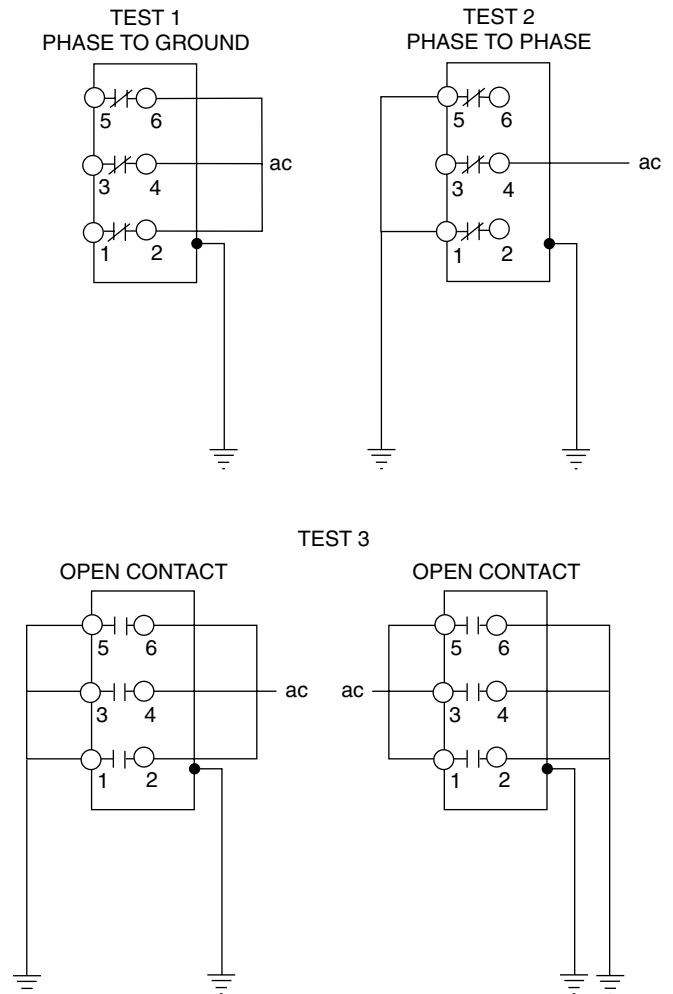

Figure 20. Connection diagrams for high-potential withstand testing
4. Insert the manual closing crank (stored on the inside of the operator cabinet door) through the hole in the right-hand side of the operator cabinet (sealed with a bolt-nut-seal) and onto the drive shaft (see Figure 20).